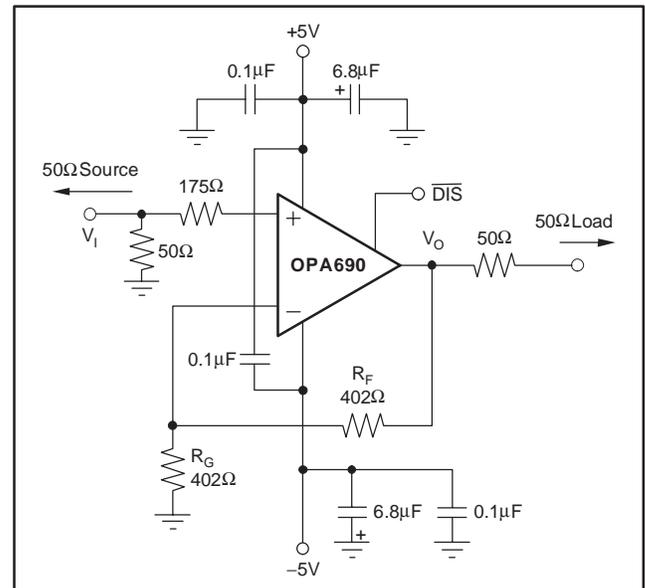
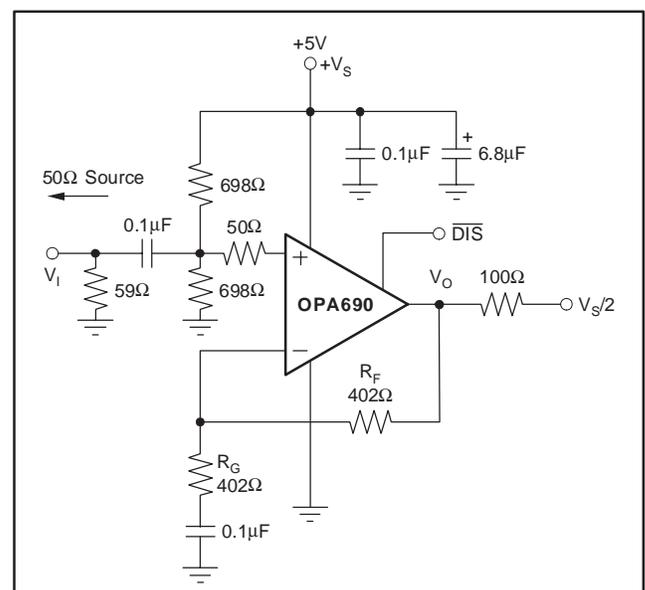
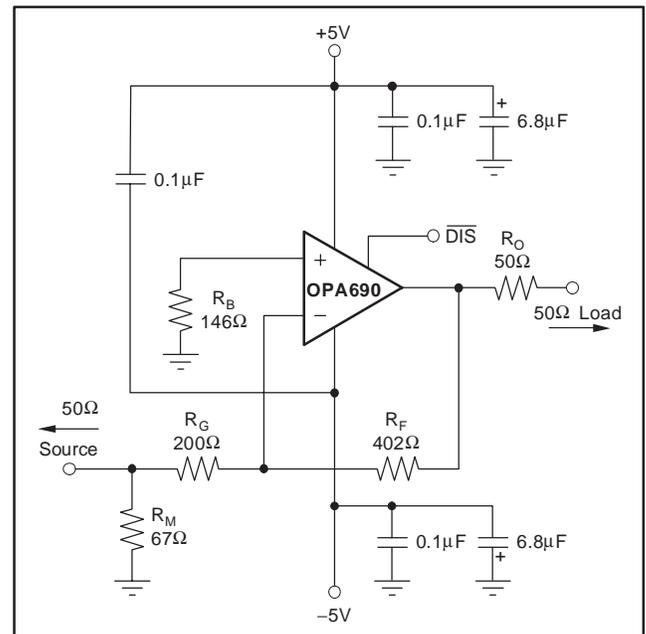
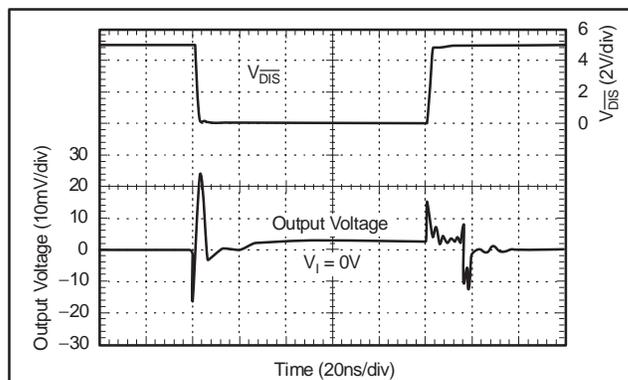

Figure 1. DC-Coupled, G = +2, Bipolar Supply, Specification and Test Circuit
Figure 2. DC-Coupled, G = +2, Single-Supply, Specification and Test Circuit
Figure 8. Gain of -2 Example Circuit
Figure 14. Disable/Enable Glitch
ELECTRICAL CHARACTERISTICS: $V_S = +5V$ (continued)**Boldface** limits are tested at **+25°C**.At $R_F = 402\Omega$, $R_L = 100\Omega$, and $G = +2$ (see Figure 2 for AC performance only), unless otherwise noted.
At $T_A = +25C$, $G = +2$, $R_F = 402\Omega$, and $R_L = 100\Omega$ (see Figure 1 for AC performance only), unless otherwise noted.
At $T_A = +25^\circ C$, $G = +2$, $R_F = 402\Omega$, and $R_L = 100\Omega$ (see Figure 1 for AC performance only), unless otherwise noted.
At $T_A = +25C$, $G = +2$, $R_F = 402\Omega$, and $R_L = 100\Omega$ (see Figure 2 for AC performance only), unless otherwise noted.
Figure 1 shows the DC-coupled, gain of +2, dual power-supply circuit configuration used as the basis of the ±5V Electrical Characteristics and Typical Characteristics. For test purposes, the input impedance is set to 50Ω with a resistor to ground and the output impedance is set to 50Ω with a series output resistor. Voltage swings reported in the specifications are taken directly at the input and output pins, while output powers (dBm) are at the matched 50Ω load. For the circuit of Figure 1, the total effective load will be 100Ω || 804Ω. The disable control line is typically left open to ensure normal amplifier operation. Two optional components are included in Figure 1. An additional resistor (175Ω) is included in series with the noninverting input. Combined with the 25Ω DC source resistance looking back towards the signal generator, this gives an input bias current cancelling resistance that matches the 200Ω source resistance seen at the inverting input (see the *DC Accuracy and Offset Control* section). In addition to the usual power-supply decoupling capacitors to ground, a 0.1μF capacitor is included between the two power-supply pins. In practical PC board layouts, this optional-added capacitor will typically improve the 2nd-harmonic distortion performance by 3dB to 6dB.
Figure 2 shows the AC-coupled, gain of +2, single-supply circuit configuration which is the basis of the +5V Specifications and Typical Characteristics. Though not a *rail-to-rail* design, the OPA690 requires minimal input and output voltage headroom compared to other very wideband voltage-feedback op amps. It will deliver a 3V_{PP} output swing on a single +5V supply with > 150MHz bandwidth. The key requirement of broadband single-supply operation is to maintain input and output signal swings within the useable voltage ranges at both the
input and the output. The circuit of Figure 2 establishes an input midpoint bias using a simple resistive divider from the +5V supply (two 698Ω resistors). The input signal is then AC-coupled into the midpoint voltage bias. The input voltage can swing to within 1.5V of either supply pin, giving a 2V_{PP} input signal range centered between the supply pins. The input impedance matching resistor (59Ω) used for testing is adjusted to give a 50Ω input load when the parallel combination of the biasing divider network is included.
Both the input signal and the gain setting resistor are AC-coupled using $0.1\mu F$ blocking capacitors (actually giving bandpass response with the low-frequency pole set to $32kHz$ for the component values shown). As discussed for Figure 2, this allows the midpoint bias formed by the two $1.87k\Omega$ resistors to appear at both the input and output pins. The midband signal gain is set to $+4$ ($12dB$) in this case. The capacitor to ground on the noninverting input is intentionally set larger to dominate input parasitic terms. At a gain of $+4$, the OPA690 on a single supply will show $\sim 80MHz$ small- and large-signal bandwidth. The resistor values have been slightly adjusted to account for this limited bandwidth in the amplifier stage. Tests of this circuit show a precise $5MHz$, $-3dB$ point with a maximally flat passband (above the $32kHz$ AC-coupling corner), and a maximum stop band attenuation of $36dB$ at the amplifier's $-3dB$ bandwidth of $80MHz$.
A good rule of thumb is to target the parallel combination of R_F and R_G (see Figure 1) to be less than approximately 300Ω. The combined impedance $R_F || R_G$ interacts with the inverting input capacitance, placing an additional pole in the feedback network and thus, a zero in the forward response. Assuming a 2pF total parasitic on the inverting node, holding $R_F || R_G < 300Ω$ will keep this pole above 250MHz. By itself, this constraint implies that the feedback resistor R_F can increase to several kΩ at high gains. This is acceptable as long as the pole formed by R_F and any parasitic capacitance appearing in parallel is kept out of the frequency range of interest.
Voltage-feedback op amps exhibit decreasing closed-loop bandwidth as the signal gain is increased. In theory, this relationship is described by the Gain Bandwidth Product (GBP) shown in the Electrical Characteristics. Ideally, dividing GBP by the noninverting signal gain (also called the Noise Gain, or NG) will predict the closed-loop bandwidth. In practice, this only holds true when the phase margin approaches 90° , as it does in high gain configurations. At low gains (increased feedback factors), most amplifiers will exhibit a more complex response with lower phase margin. The OPA690 is compensated to give a slightly peaked response in a noninverting gain of 2 (see Figure 1). This results in a typical gain of +2 bandwidth of 220MHz, far exceeding that predicted by dividing the 300MHz GBP by 2. Increasing the gain will cause the phase margin to approach 90° and the bandwidth to more closely approach the predicted value of (GBP/NG). At a gain of +10, the 30MHz bandwidth shown in the Electrical Characteristics agrees with that predicted using the simple formula and the typical GBP of 300MHz.
The frequency response in a gain of +2 may be modified to achieve exceptional flatness simply by increasing the noise gain to 2.5. One way to do this, without affecting the +2 signal gain, is to add an 804 Ω resistor across the two inputs in the circuit of Figure 1. A similar technique may be used to reduce peaking in unity-gain (voltage follower) applications. For example, by using a 402 Ω feedback resistor along with a 402 Ω resistor across the two op amp inputs, the voltage follower response will be similar to the gain of +2 response of Figure 2. Reducing the value of the resistor across the op amp inputs will further limit the frequency response due to increased noise gain.
Since the OPA690 is a general-purpose, wideband voltage-feedback op amp, all of the familiar op amp application circuits are available to the designer. Inverting operation is one of the more common requirements and offers several performance benefits. Figure 8 shows a typical inverting configuration where the I/O impedances and signal gain from Figure 1 are retained in an inverting circuit configuration.
transmission line conductor), R_G may be set equal to the required termination value and R_F adjusted to give the desired gain. This is the simplest approach and results in optimum bandwidth and noise performance. However, at low inverting gains, the resultant feedback resistor value can present a significant load to the amplifier output. For an inverting gain of 2, setting R_G to 50 Ω for input matching eliminates the need for R_M but requires a 100 Ω feedback resistor. This has the interesting advantage that the noise gain becomes equal to 2 for a 50 Ω source impedance—the same as the noninverting circuits considered in the previous section. The amplifier output, however, will now see the 100 Ω feedback resistor in parallel with the external load. In general, the feedback resistor should be limited to the 200 Ω to 1.5k Ω range. In this case, it is preferable to increase both the R_F and R_G values, as shown in Figure 8, and then achieve the input matching impedance with a third resistor (R_M) to ground. The total input impedance becomes the parallel combination of R_G and R_M .
The second major consideration, touched on in the previous paragraph, is that the signal source impedance becomes part of the noise gain equation and influences the bandwidth. For the example in Figure 8, the R_M value combines in parallel with the external 50 Ω source impedance, yielding an effective driving impedance of $50\Omega \parallel 67\Omega = 28.6\Omega$. This impedance is added in series with R_G for calculating the noise gain (NG). The resultant NG is 2.8 for Figure 8, as opposed to only 2 if R_M could be eliminated as discussed above. The bandwidth will therefore be slightly lower for the gain of ± 2 circuit of Figure 8 than for the gain of +2 circuit of Figure 1.
The third important consideration in inverting amplifier design is setting the bias current cancellation resistor on the noninverting input (R_B). If this resistor is set equal to the total DC resistance looking out of the inverting node, the output DC error, due to the input bias currents, will be reduced to (Input Offset Current) $\times R_F$. If the 50Ω source impedance is DC-coupled in Figure 8, the total resistance to ground on the inverting input will be 228Ω . Combining this in parallel with the feedback resistor gives the $R_B = 146\Omega$ used in this example. To reduce the additional high-frequency noise introduced by this resistor, it is sometimes bypassed with a capacitor. As long as $R_B < 350\Omega$, the capacitor is not required because the total noise contribution of all other terms will be less than that of the op amp input noise voltage. As a minimum, the OPA690 requires an R_B value of 50Ω to damp out parasitic-induced peaking—a direct short to ground on the noninverting input runs the risk of a very high-frequency instability in the input stage.
or power levels, the 2nd-harmonic dominates the distortion with a negligible 3rd-harmonic component. Focusing then on the 2nd-harmonic, increasing the load impedance improves distortion directly. Remember that the total load includes the feedback network; in the noninverting configuration (see Figure 1), this is sum of $R_F + R_G$, while in the inverting configuration it is just R_F . Also, providing an additional supply-decoupling capacitor (0.1μF) between the supply pins (for bipolar operation) improves the 2nd-order distortion slightly (3dB to 6dB).
One key parameter in disable operation is the output glitch when switching in and out of the disabled mode. Figure 14 shows these glitches for the circuit of Figure 1 with the input signal at 0V. The glitch waveform at the output pin is plotted along with the $\overline{\text{DIS}}$ pin voltage.
The transition edge rate (dv/dt) of the $\overline{\text{DIS}}$ control line will influence this glitch. For the plot of Figure 14, the edge rate was reduced until no further reduction in glitch amplitude was observed. This approximately 1V/ns maximum slew rate may be achieved by adding a simple RC filter into the $\overline{\text{DIS}}$ pin from a higher speed logic line. If extremely fast transition logic is used, a 1kΩ series resistor between the logic gate and the $\overline{\text{DIS}}$ input pin provides adequate bandlimiting using just the parasitic input capacitance on the $\overline{\text{DIS}}$ pin while still ensuring adequate logic level swing.
As a worst-case example, compute the maximum T_J using an OPA690IDBV (SOT23-6 package) in the circuit of Figure 1 operating at the maximum specified ambient temperature of +85°C and driving a grounded 20Ω load.